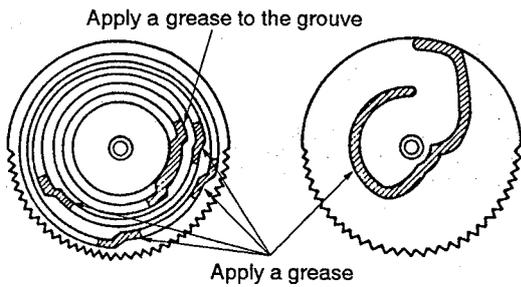

Fig. 10
- ① Open the tray.
- ② Remove one screw (A), two screws (B), three screws (C) and one screw (D).
- ③ Separate the output terminal of the AUDIO Assembly from the rear panel. (Arrow ①)
- ④ Slide the AUDIO Assembly by lifting it up. (Arrow ②)
- ⑤ Raise the AUDIO Assembly so that it does not touch the tray guide assembly. (Arrow ③)
① Grease the cam gear. (Fig.10)